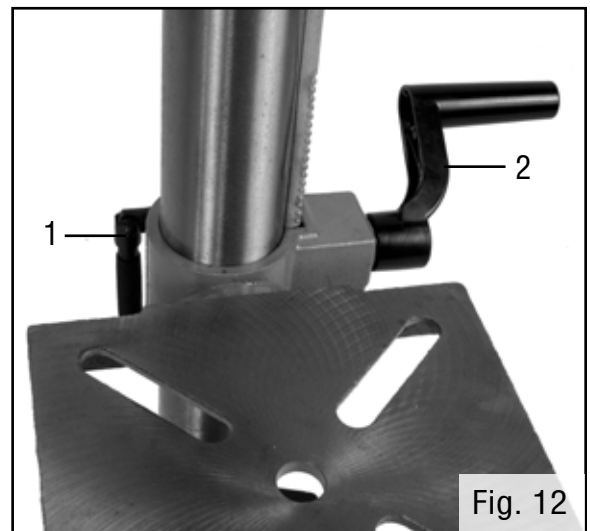

Fig. 12
### RAISE AND LOWER THE TABLE (FIG. 12)
1. Loosen the support lock handle (Fig. 12 - 1) and turn the crank handle (Fig. 12 - 2) until the table is at the desired height.
### ROTATE THE TABLE (FIG. 12)
1. Loosen the support lock handle (Fig. 12 - 1) and turn the table around the column to the desired position.